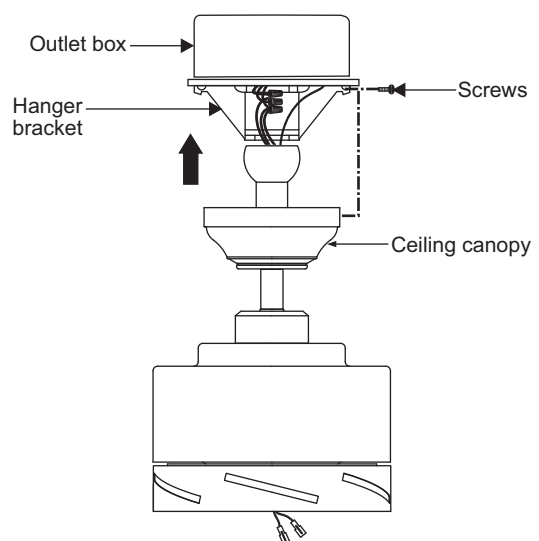

**Figure 14**
**Step 2.** (Figure 14) Motor to Receiver Electrical Connections: Connect the black wire from the fan to black wire marked "TO MOTOR L". Connect the white wire from the fan to the white wire marked "TO MOTOR N" from the receiver. Connect the blue wire from the fan to the blue wire marked "For Light" from the receiver. Secure the wire connections with the plastic wire nuts provided.
**Step 3.** (Figure 14) Receiver to House Supply Wires Electrical Connections: Connect the black (hot) wire from the ceiling to the black wire marked "AC in L" from the receiver. Connect the white(neutral) wire from the ceiling to the white wire marked "AC in N" from the Receiver. Secure the wire connections with the plastic wire nuts provided.
**Step 4.** (Figure 14) If your outlet box has a ground wire (green or bare copper) connect it to the fan ground wires; otherwise connect the hanging bracket ground wire to the mounting bracket. Secure the wire connection with a plastic nut provided. After connecting the wires, spread them apart so that the green and white wires are on one side of the outlet box and black and blue wires are on the other side. Carefully tuck the wire connections up into the outlet box.